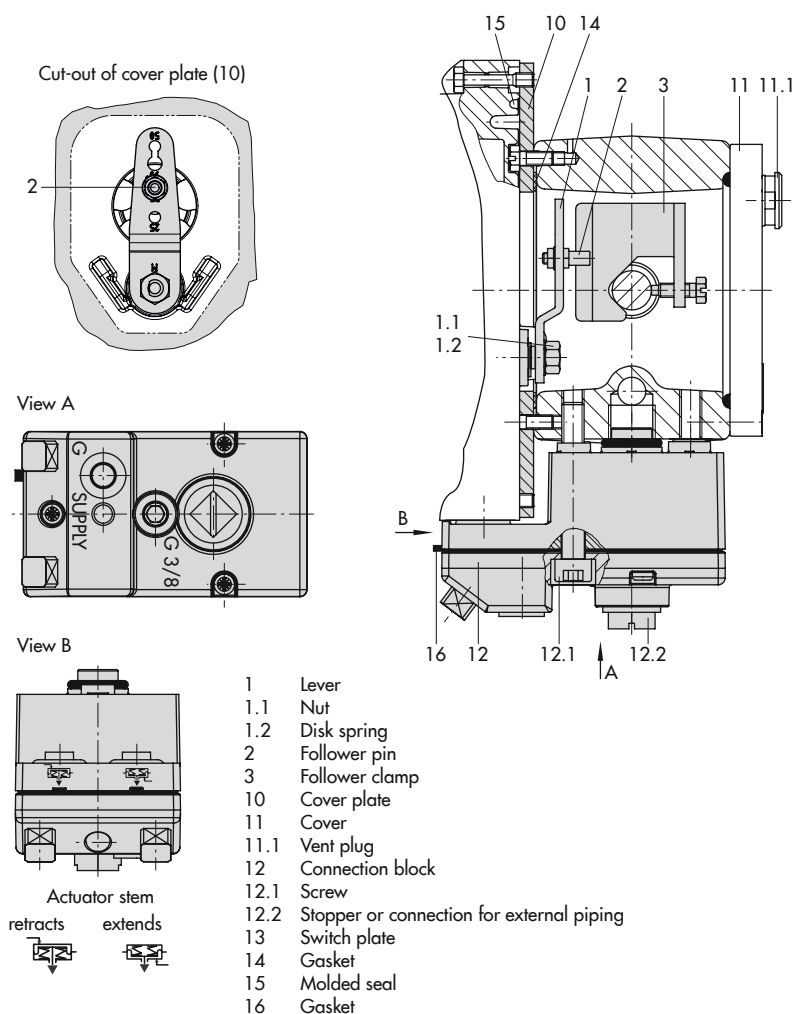

Fig. 5-9: Direct attachment – Signal pressure connection for Type 3277 Actuator with 175 to 750 cm²
- ➔ Actuators with 175 to 750 cm² (Fig. 5-9)
2. Place follower clamp (3) on the actuator stem, align it and screw tight so that the mounting screw is located in the groove of the actuator stem.
3. Mount cover plate (10) with narrow side of the cut-out (Fig. 5-9, on the left) pointing towards the signal pressure connection. Make sure that the gasket (14) points towards the actuator yoke.
4. Check the pin position of the follower pin (2) on M lever (1). Refer to travel tables for type of attachment. If necessary, change the pin position (see section 5.4).
5. Insert molded seal (15) into the groove of the positioner housing.